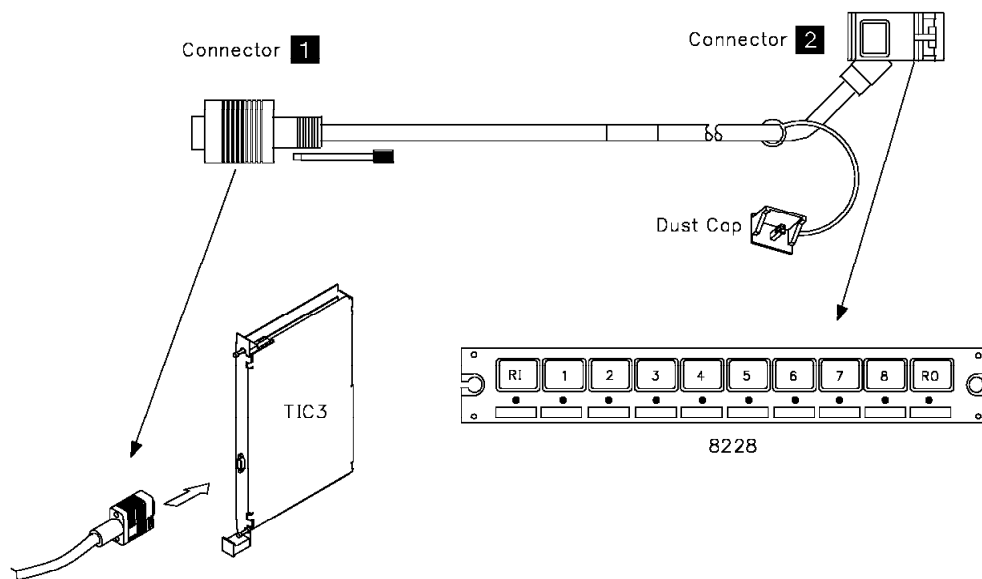

Figure 14. Connection of the 8228 to a TIC3
- ___ 5. Plug connector **2** to one of the 8228 LAN adapter plugs 1 to 8 (Refer to Figure 14 on page 25 below).